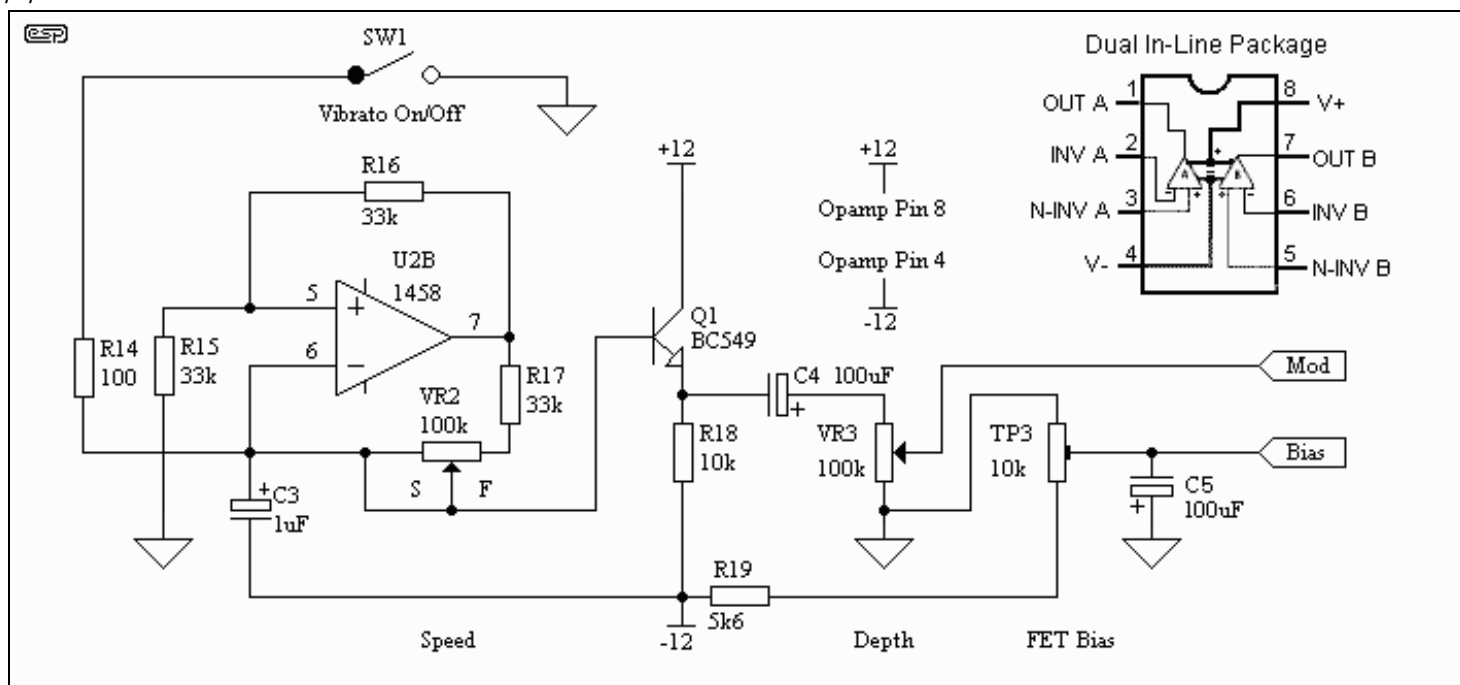
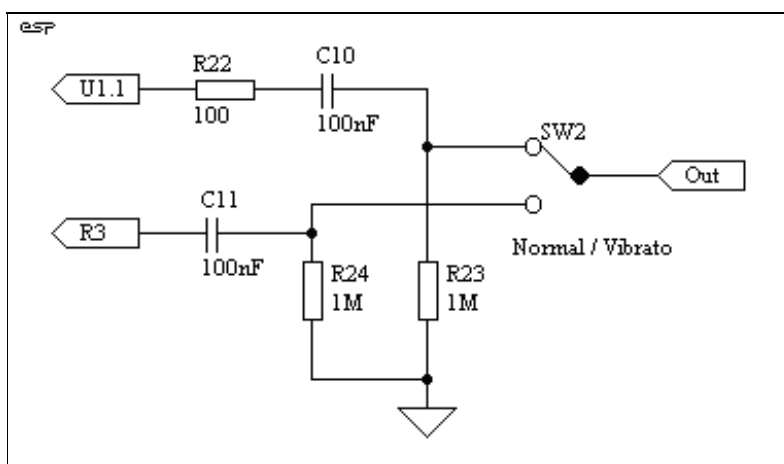

Figure 2 - Modulator Circuit
Figure 4 - Bypass Switching
**Update** - I only just noticed that there was an error in Figure 2, with the transistor being driven from the opamp output (a square wave). This has been corrected (12 Aug 2003).
The FETs are used as a variable resistance, and although they introduce some 2nd harmonic distortion, are fine for guitar, and the distortion will be audible only with very high output pickups. Even then, it is minor, and probably less than that introduced by a valve guitar amp. Figure 2 shows the modulator oscillator, which is a conventional opamp feedback circuit. The modulation signal is taken from the capacitor, and is nominally a rounded triangle wave. This is buffered by Q1 to prevent loading of the oscillator. Closing the switch disables the oscillator, and stops the vibrato effect - any tonal variation obtained by the EFFECT control remains. To eliminate this effect, a complete bypass is required - see Figure 4 for an example.
In some instances, you might want to bypass the vibrato completely. Depending on the setting of the EFFECT control, there may be some change in tone that are undesirable. Figure 4 shows how this can be done, with a SPDT switch. A complete bypass (removing all circuitry from the signal path) is less desirable, because of changes in the impedance presented to the guitar when the vibrato in or out of
Page Created and Copyright (c) 20 Jan 2000./ Updated 12 Aug 2003 - corrected error in Fig 2